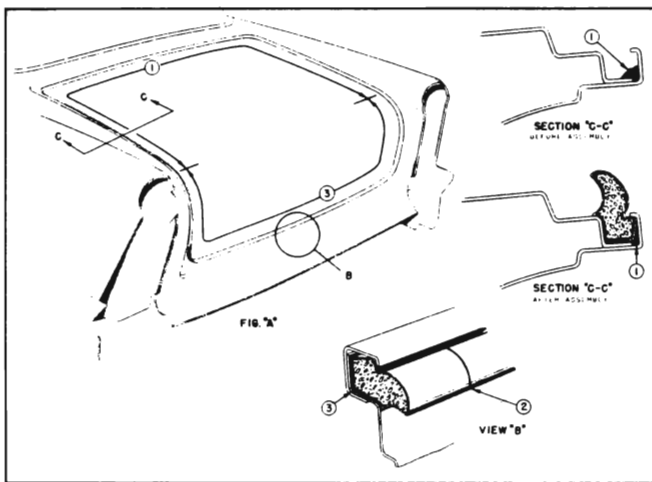

Figure 13-93—Rear Compartment Weatherstrip
The weatherseal at the rear compartment area is provided by a one-piece weatherstrip which is secured to the body by the compartment opening gutter. An additional seal is obtained by application of weatherstrip cement to the rear compartment gutter at the weld joint, as shown in Section "C-C" of figure 13-93, prior to installation of the weatherstrip.
3. Using a pressure-type gun, flow a bead of weatherstrip cement as shown at "1" in Section "C-C" along weld joint at lower inner corner of the rear compartment gutter, along the length of the weatherstrip indicated by "1" in Figure 13-93. In addition, brush a sufficient amount of weatherstrip cement from the upper joint of the rear quarter outer panel extension downward and across the bottom as shown at "3" in view "B" to aid in the retention of the weatherstrip. Apply this seal the length of the weatherstrip indicated by "3" in Figure 13-93.